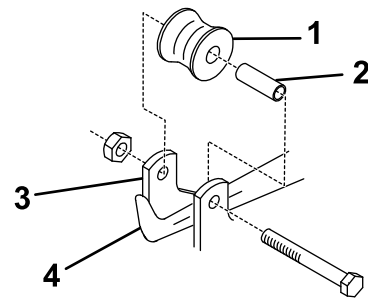

Figure 4
- Slide the spiker unit under the pull-arm frame until the lift-pivot plates are positioned on either side of the lift arm (Figure 4).
- While pressing down on the lift arm, roll the spiker unit back until the lift roller is over the left arm (Figure 4).